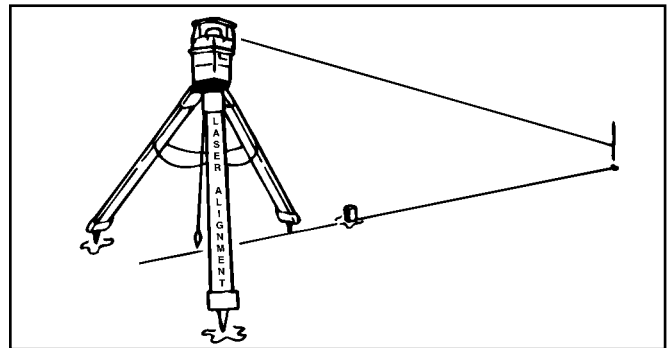
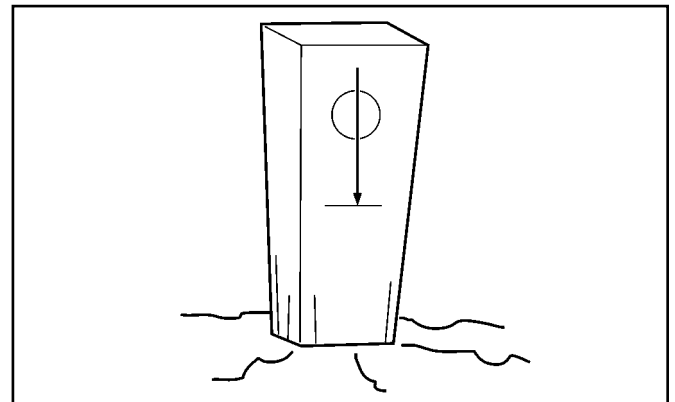

Figure 1-15 Method One: Align Laser Beacon with Grade Stakes
Figure 1-17 Grade Stake with Elevation Mark
2. Place the Laser Beacon in line with the two grade stakes. (Refer to Figure 1-15).
1. Set a minimum of two surveyed grade stakes as shown in the Figure 1-15. The stakes must have elevation information (Refer to Figure 1-17).
- c. Adjust the Rod Eye Receiver for any cut or fill amount indicated by the grade stake. (Refer to Figure 1-17).